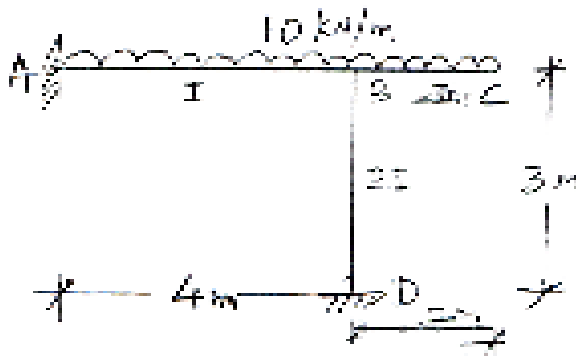

Fig. 14
- b) Plot SFD for the plane frame loaded and supported as shown in Fig. 14. Use moment distribution method.
- 8. a) Plot SFD for the plane frame shown in Fig. 14 use slope deflection method